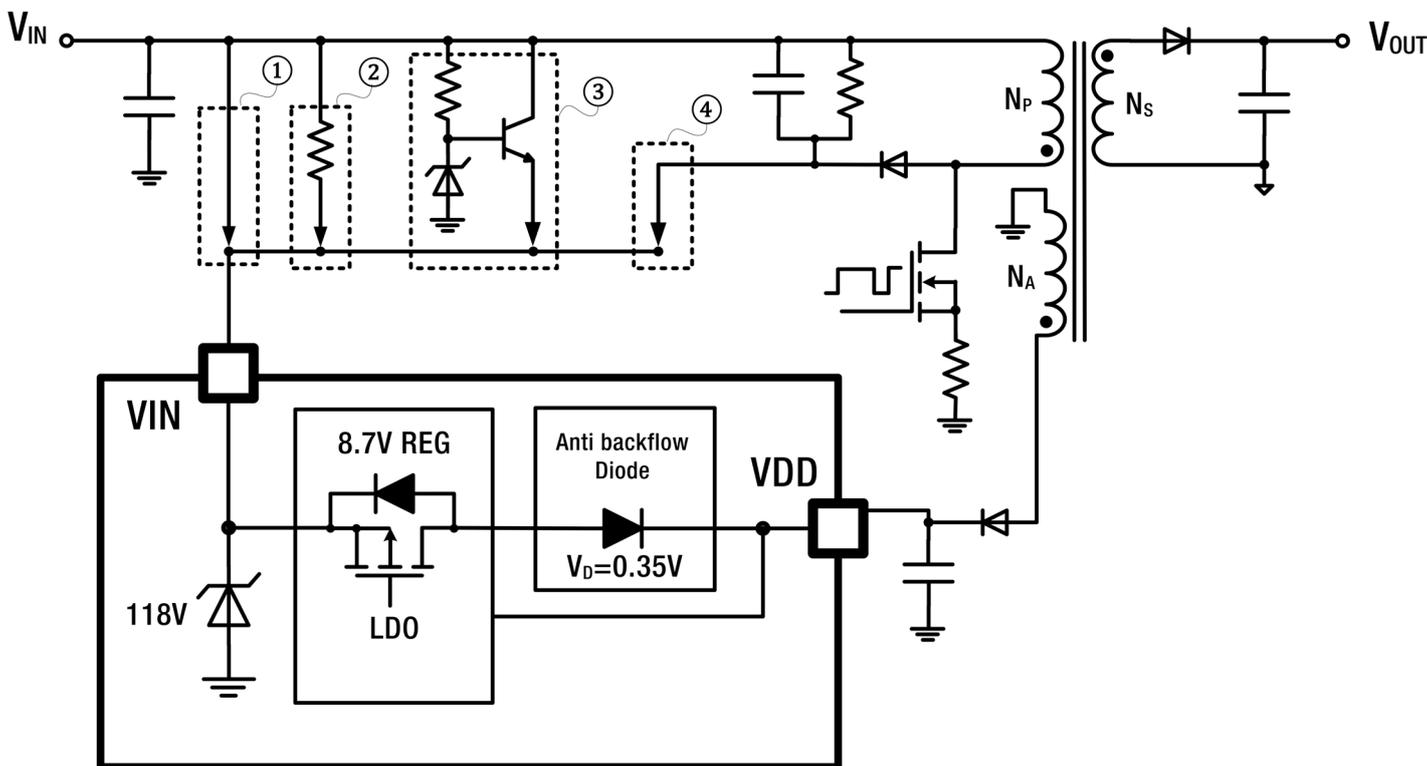

Fig. 20
As shown in Figure 20, the dashed boxes labeled ①, ②, ③, and ④ illustrate four different startup circuit connection methods, each optimized for specific input voltage ranges and application conditions.
① – In this method, the high-voltage pin (VIN) of the device is connected directly to the input of the switching power supply. The internal high-voltage LDO then generates power for the VDD pin. Based on the VIN pin's maximum voltage rating, this approach is suitable for input voltages up to 100V.
② – This configuration introduces a resistor between the VIN pin and the switching power supply input to suppress short-term voltage spikes. The resistor value typically ranges from several hundred to several thousand ohms, depending on the VDD current requirement under the minimum input voltage conditions.
③ – A Zener clamp voltage regulator circuit can be added externally to expand the high-voltage input capability of the RVPW016. In designs that do not utilize the VIN pin, a diode is typically connected between the startup transistor's emitter and the VDD pin to prevent reverse breakdown. However, due to the integrated anti-backflow Schottky diode between VIN and VDD within the RVPW016, this external diode is not required when using an external high-voltage startup circuit connected to VIN.
④ – With a startup threshold of 3.7V, the RVPW016 supports applications with input voltages as low as 4V. When powering the device directly from a low-voltage input, a power transistor with a gate threshold voltage below 1V should be selected to ensure reliable conduction, especially since the VDD voltage may momentarily drop once the converter begins operation. Alternatively, by connecting the cathode of the RCD snubber circuit's diode (located at the drain of the startup power transistor) to the RVPW016's VIN pin, the device can start up from input voltages as low as 4.5V without requiring a low-threshold MOSFET. After startup, the reflected voltage and leakage inductance energy sustain the device's operation by boosting the internal voltage.